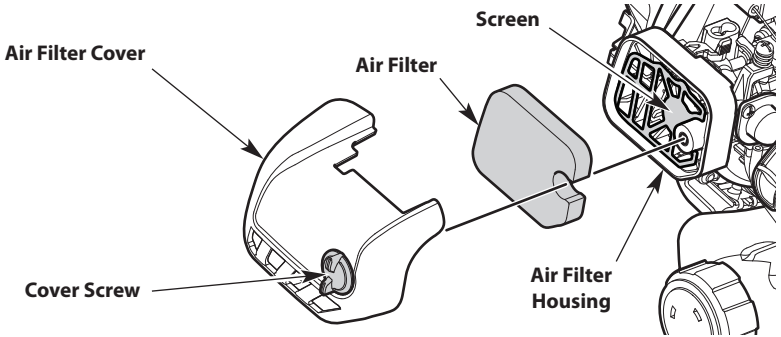

Fig. 12
1. Open the air filter cover by unscrewing the cover screw (Fig. 12).
2. Remove the air filter from the air filter housing (Fig. 12).
6. Reinstall the air filter in the air filter housing (Fig. 12).
NOTE: Make sure the metal screen is seated in the air filter housing before reinstalling the air filter (Fig. 12).